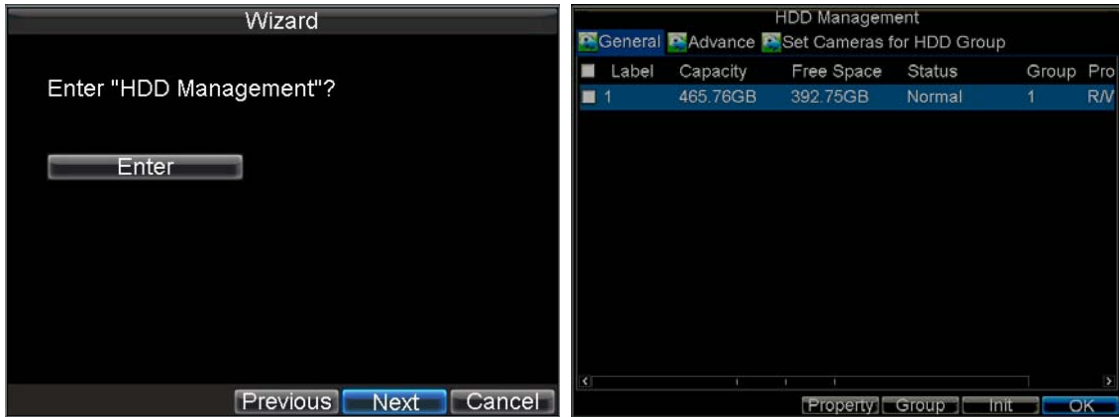

Figure 4. HDD Management
5. Click *Next* button to enter the HDD Management dialog box, shown in Figure 4.